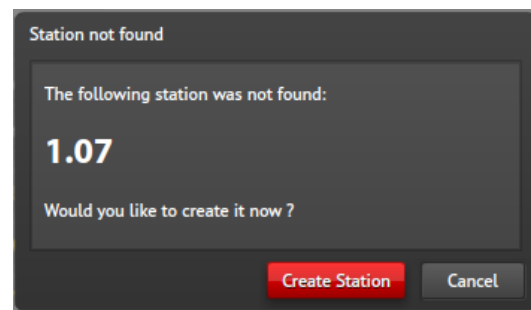

Figure 120. Station Not Found
- A prompt to add the station to the configuration if the station is not already in the configuration (see Figure 120).